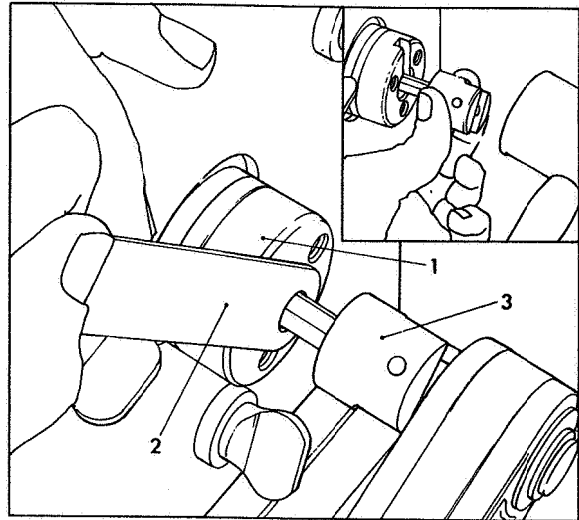

Fig 9 Loosening drive shaft screw
Reverse fixture endways in vice as shown in Fig 9. Hold drive hub (1) with Tool Part No 7144-773 (2) and using Tool Part No 7144-261 (3), loosen the drive shaft screw a couple of turns.